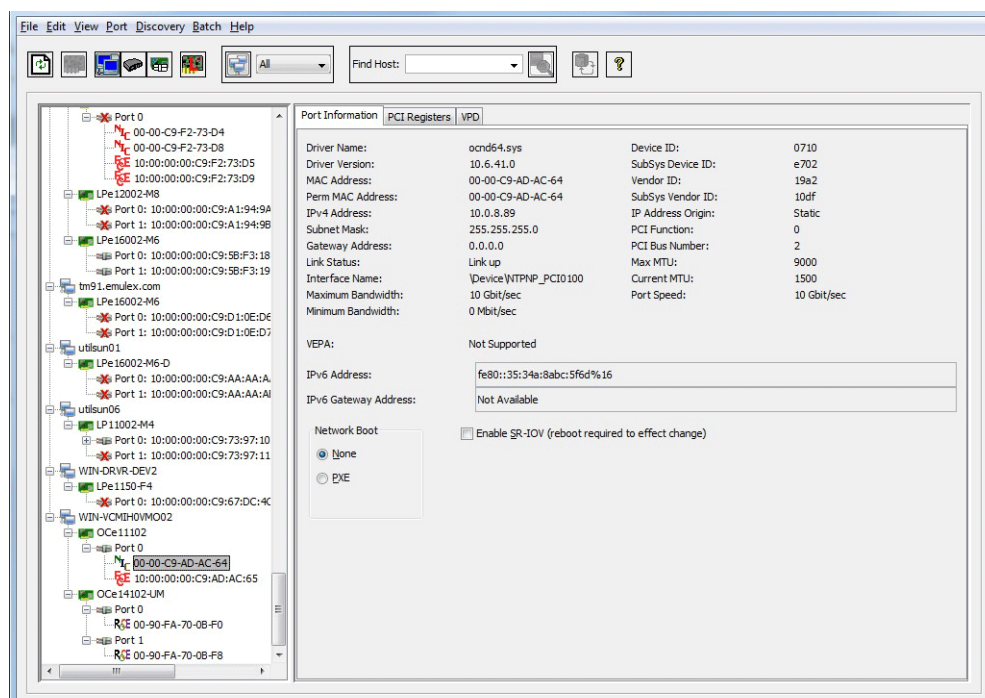

Figure 8-3 Port Information Tab, SR-IOV Enabled
3. Select the **Port Information** tab (Figure 8-3 on page 121).